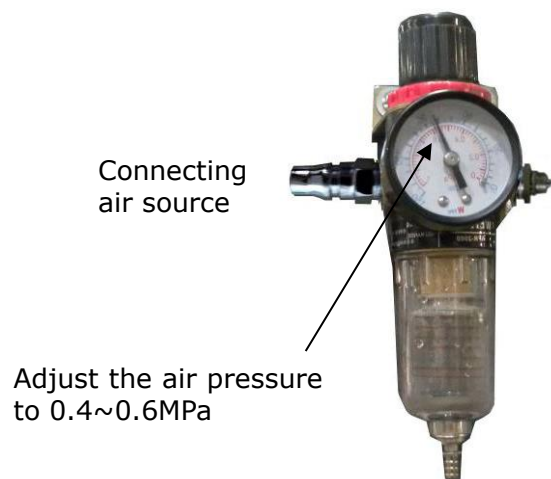

Fig. 19
6. Connecting the air source , adjust the air pressure to 0.4- 0.6MPa **(See Fig. 19).**